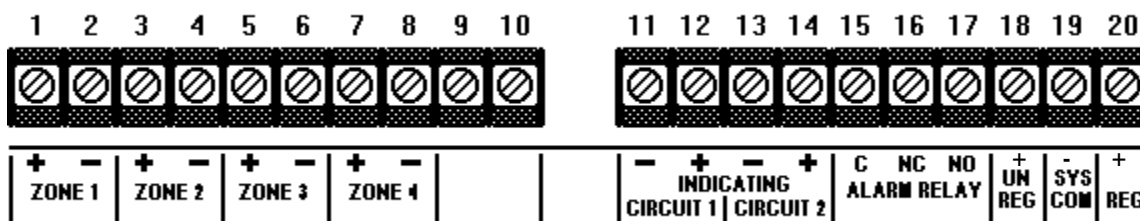

Figure 3B: Dress Panel Terminal Guide
Indicating (Bell) Circuits - Two Class B Indicating Appliance Circuits are provided as a standard feature on this panel. Each circuit is capable of 1.5 amperes of signaling current. Total current drawn from both circuits cannot exceed 2.5 amperes. Indicating appliances must be polarized. Remove ELR from each circuit and install after the last device connected to its respective circuit (see Figures 3B and 3C).
Alarm Relay - One Form-C dry supplementary alarm contact is provided in the basic panel for controlling supplementary devices. It is rated for 2 amps of current at 30 VDC and 0.5 amps at 30 VAC (resistive). See Figure 3B for terminal location.
Unregulated, Unfiltered Power: Devices such as door holders requiring such DC power, up to 200 mA for door holders, can be connected to terminal #18(+) and 19(-). See Figure 3B for terminal location.
**** Local Energy Municipal Box (supervised circuit):** Remove jumper JP1. If box is equipped with a reset supervisory switch, remove jumper between main board terminals 9 and 10 (see Figure 3B). Wire the switch common to terminal 9 and the N.C. contact to terminal 10.
**** Remote Station Connection (non-supervised):** Terminals 3 and 4 provide a reverse polarity alarm output. Trouble signals can be transmitted on these same terminals by cutting jumper JP2 on the module (output voltage drops to zero (0) VDC during trouble unless overridden by an alarm condition).